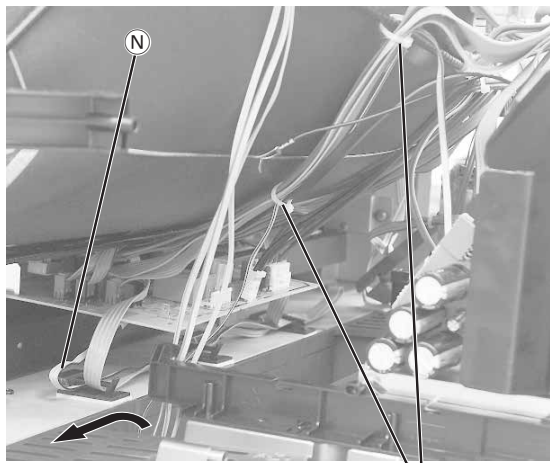

Fig. 11
- If necessary disengage the two cable clamps ⑦ (Fig. 11).
- Route the two Flexprint leads and the 12-core lead in direction of the arrow (Fig. 11) below the DVD drive mechanism.
Note: The pre-fitted three-core ribbon cable (N) (Fig. 11) must be bent toward the top in such a way (if necessary pull this cable out of the left cable clamp) that it can be connected with the socket "1004" on the eject board after sliding in the DVD drive mechanism.